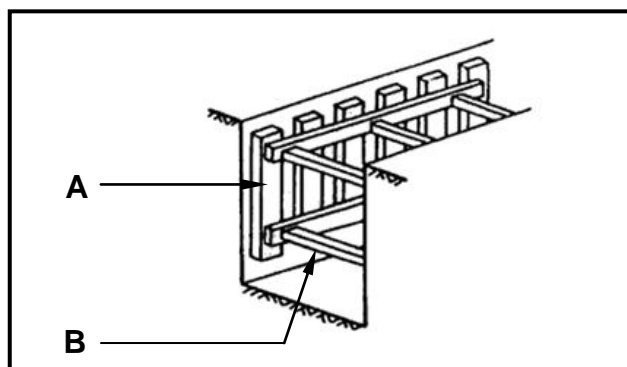

FIGURE 3.3
- 3.3 FIGURE 3.3 below is a drawing of a type of shore used in trenches. Study the drawing and answer the questions that follow.